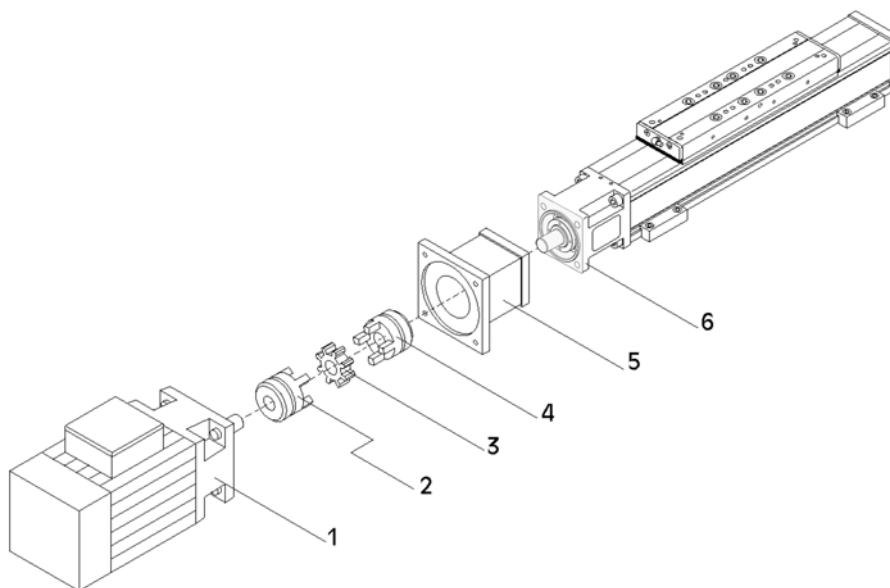

Fig. 13: Drive motor
1. **Fig. 13:** Place the motor (1) in mounting position beside the linear drive unit.
3. Attach the coupling half (4) to the shaft of the linear drive unit.
4. Attach the motor adapter flange (5) to the fixed bearing housing (6) with four screws.
5. Push the toothed wheel (3) onto the coupling half on the linear drive unit.
6. Mount the second coupling half (2) on the drive shaft of the motor.
7. Attach the motor with the coupling half to the motor adapter flange (5) with four screws. Ensure that no axial pressure is exerted on the motor shaft. If necessary, correct the distance between the two coupling halves.